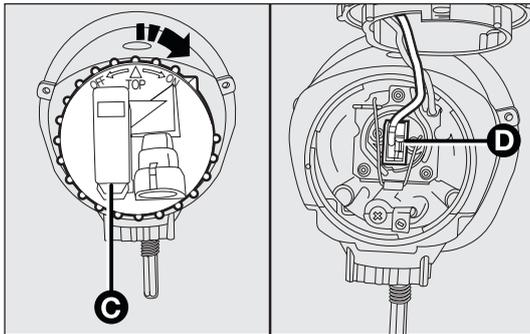

fig. 150
- loosen the cover C-fig. 150 and remove the connector D;